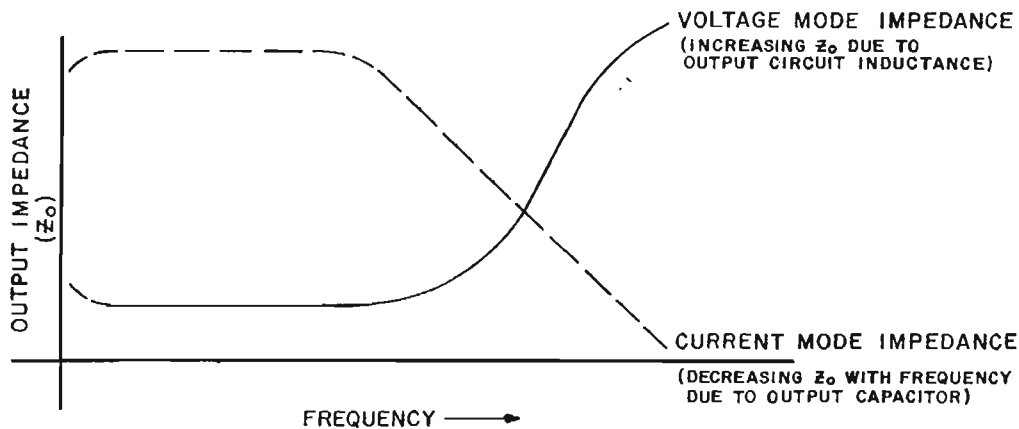

FIG. 3-3 TYPICAL OUTPUT IMPEDANCE VS. FREQUENCY PLOT FOR STABILIZED D-C SOURCES.
- 3-14 **LOAD WIRE SELECTION.** The stabilized d-c power supply is definitely not an ideal voltage or current source with zero output impedance (VOLTAGE MODE) or infinite output impedance (CURRENT MODE) at all frequencies. All *voltage* sources have some amount of impedance which *increases* with frequency and all *current* sources have an output impedance which *decreases* with frequency (refer to FIG. 3-3).
NOTE: As can be deduced from FIG. 3-3, load connections for application requiring solely stabilized *output current* are not as critical as those requiring stabilized *output voltage*: